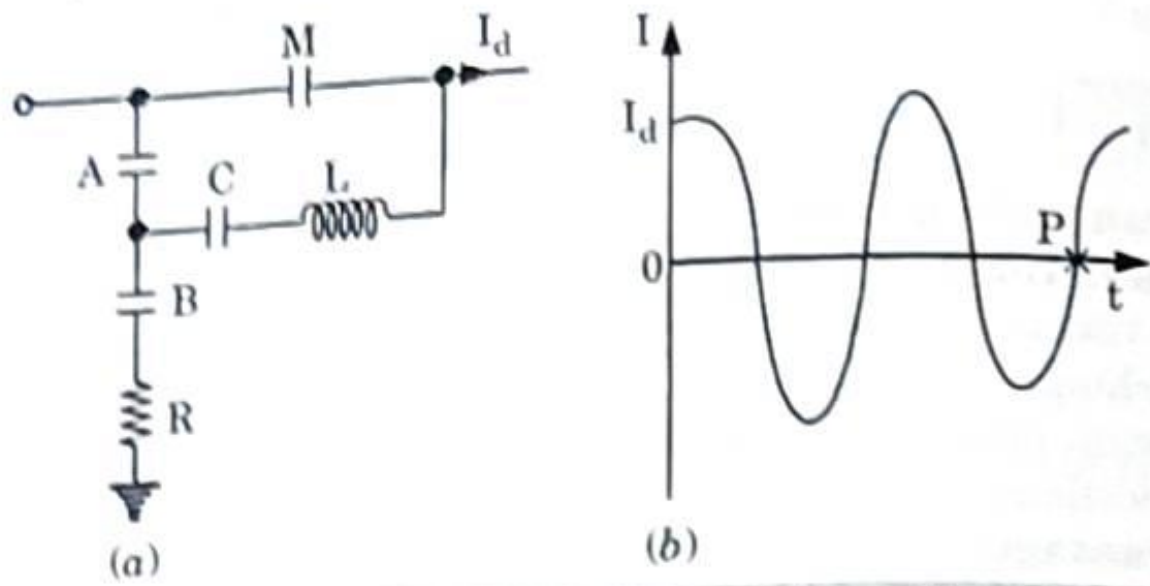

Fig. 4.30.1. (a) Schematic diagram of a DC switch (oscillatory discharge).
- A schematic diagram of such a switch is shown in Fig. 4.30.1(a). A is normally open contact whereas M and B are normally closed contacts.
- When it is desired to interrupt the current I_d , the operating mechanism opens contact B and closes A, thus initiating the oscillations in the circuit consisting of M, A, C, L and immediately afterwards the contact M opens which interrupt the current at a current zero such as P as shown in Fig. 4.30.1(b).